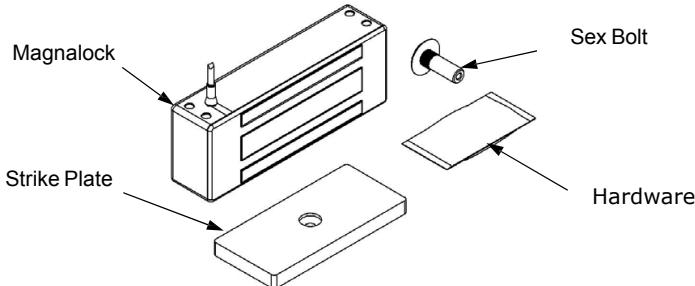

Figure 1. Magnalock Inventory
- Upon unpacking this product, PERFORM an inventory to ensure that all of the required components and hardware have been included; this should include the items detailed in Figure 1, "Magnalock Inventory."